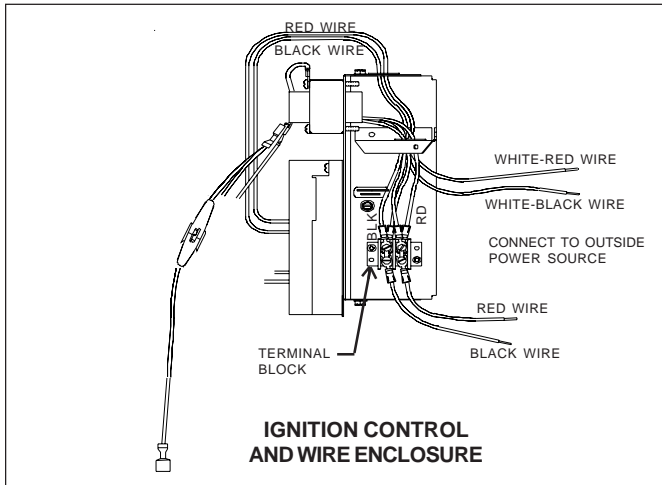

Figure 4. Power supply connections with terminal block.
1. If the power supply wires are connected to a terminal block, do the following. (See Figure 4.)